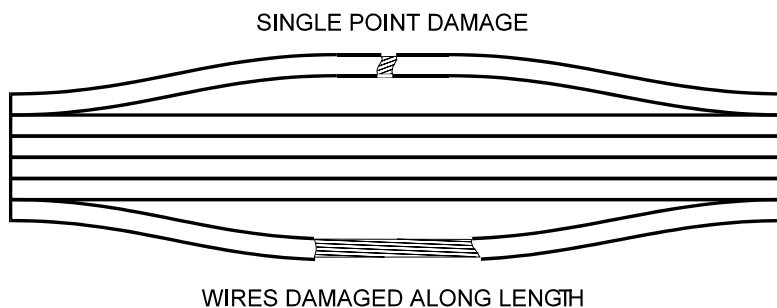

Figure 6-9 - Wire Damaged Along Its Entire Length
33. If a wire is damaged at a single point and there is sufficient slack in the wire, as shown in Figure 6-9, the damaged wire can be repaired with a single splice.